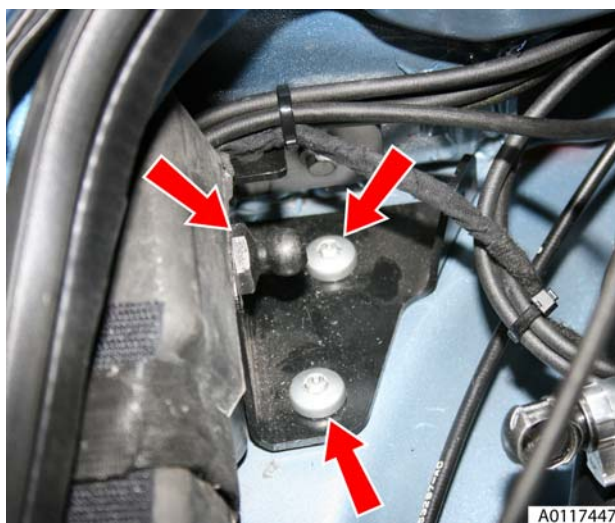

Figure 2
7. Remove tonneau cylinder pivot bracket from body (bolts x3) (see Figure 2).